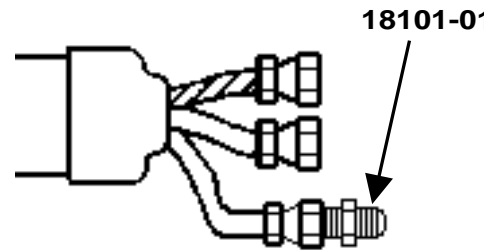

Fig. 8
7. Attach Air Connector Fitting, P/N 18101-01, to Whip Hose Air Hose. Connect a clean, dry air source to one end of the Air Connector Fitting. Tighten securely. (See Fig. 8)